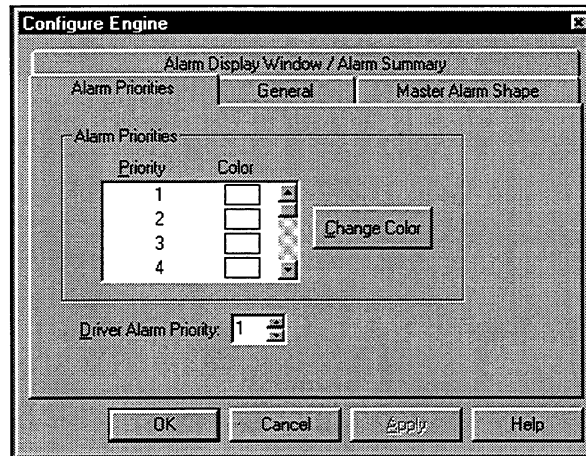

Figure 5-6. Configure Engine - Alarm Priorities Page
1. From the Application Navigator, select Engine from the Configure menu. The Configure Engine form opens, as shown in Figure 5-6.